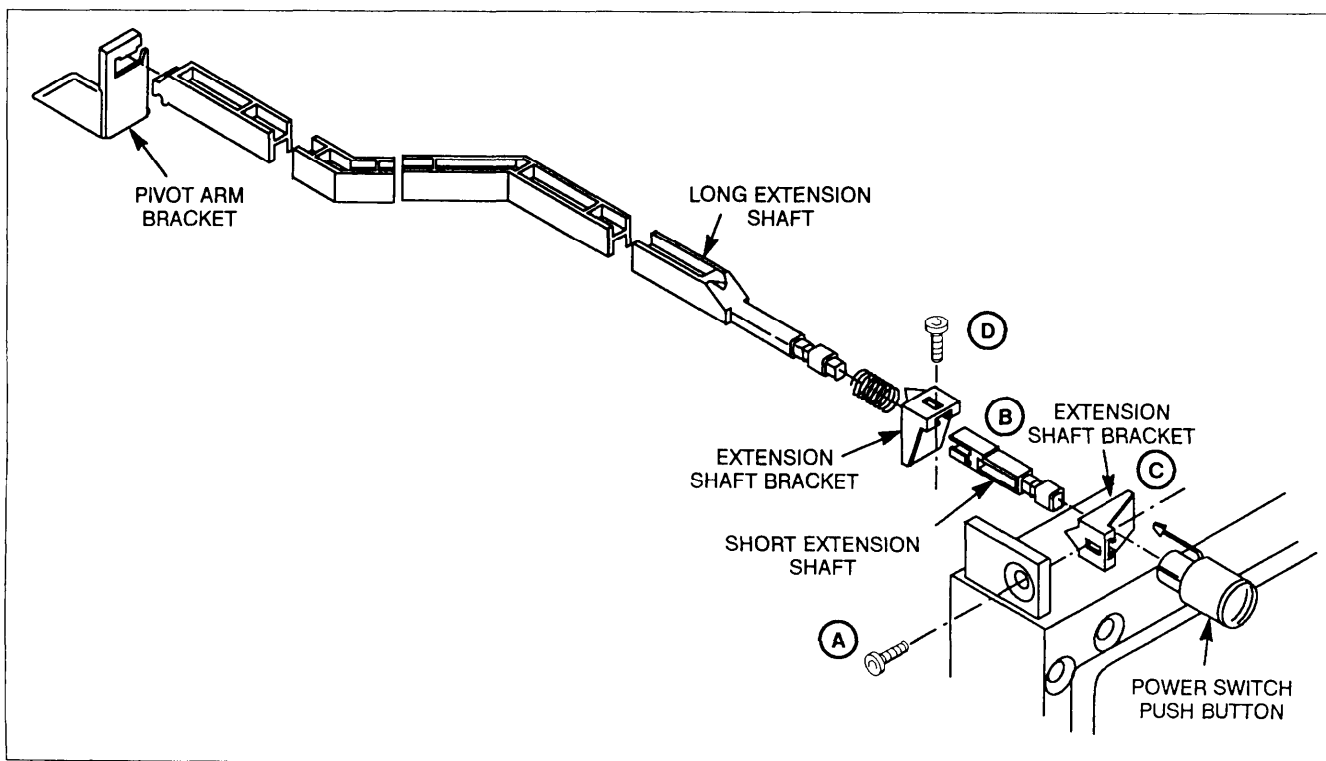

Figure 6-3. Power Switch Push Button Disassembly.
11. Turn the long extension shaft (see fig. 6-3) CCW and unsnap it from the pivot bracket at the rear middle of the Main board, sliding it out of the bracket sideways.
12. Remove the power switch push button mounting screw shown in Figure 6-3 (item A). Separate the long extension shaft from the short extension shaft at point B by inserting a small screwdriver tip in the slot while pulling out on the bracket at point C. Remove the screw (item D) and slide the long extension shaft out the rear of the front frame.